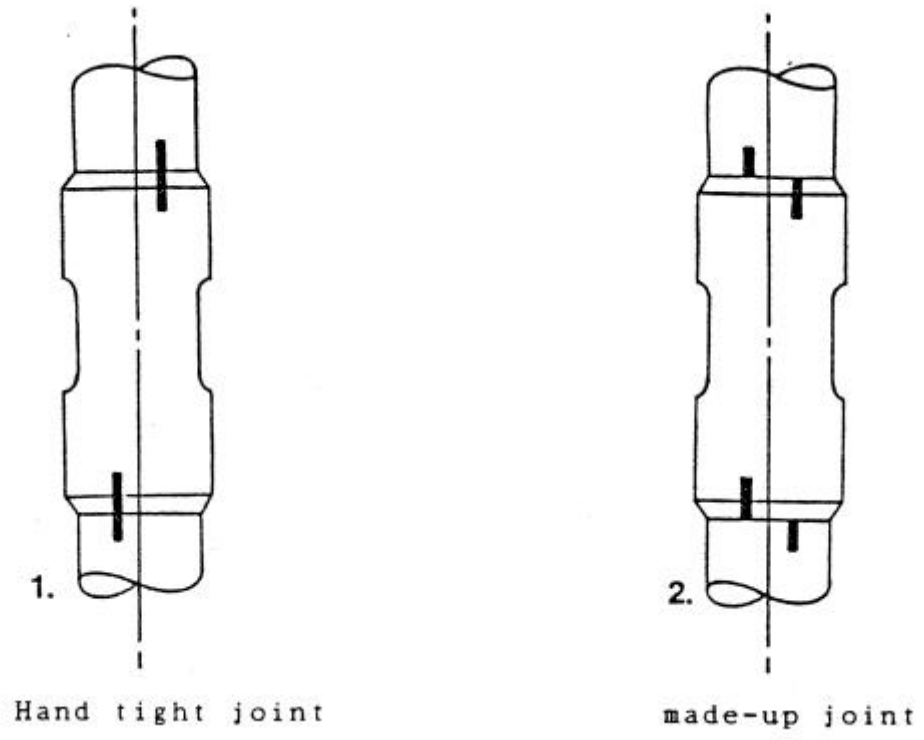

FIGURE 1
3. Make-up first coupling to hand tight position (see Figure 1). Scribe a vertical line on the top and bottom of coupling.
4. Back off coupling approximately four (4) turns, positioning the sucker rod tong on the tong. Activate the throttle handle to fully depressed position.